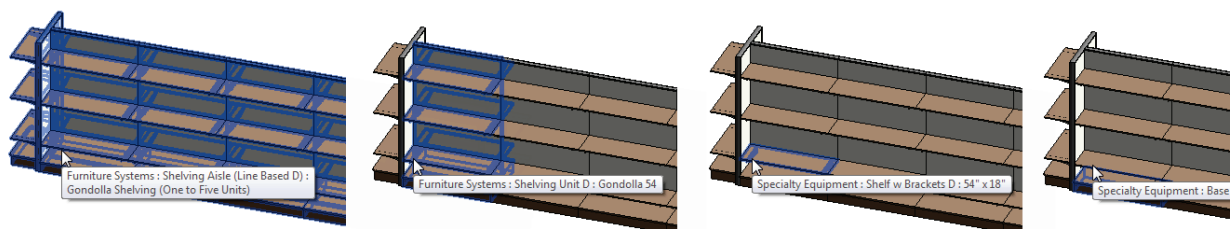

Figure 17—Nesting multiple levels
- Give careful consideration to how many levels of nesting you introduce**—It is possible to nest multiple layers deep. In other words, you can nest family A into family B and then in turn nest family B into family C and so on. There can be benefits to doing this, but each level of nesting you introduce will increase the complexity of the final family and make it more challenging to track down problems when it does not flex properly. Multi-level families have been created quite successfully, but careful planning and documentation is a must. If you are not sure how deep to nest, start with a manageable rule-of-thumb of say three levels and work from there. If you are building a family that seems to need more than three levels, don't immediately rule it out, just let it be a small red flag that tells you to look for other ways to solve the problem. If no viable alternative can be determined, then “break the rule” for that family (see Figure 17).